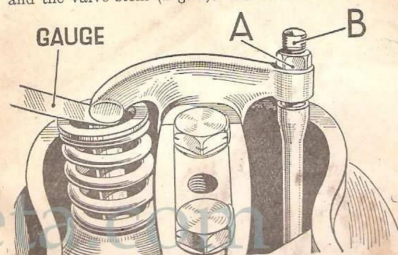

Fig. 6. Checking tappet clearance (O.H.V. model).
O.H.V. Models. Remove the rocker cover by unscrewing the central securing bolt. Check the clearance by inserting gauge between end of rocker and the valve stem (Fig. 6). The correct clearance